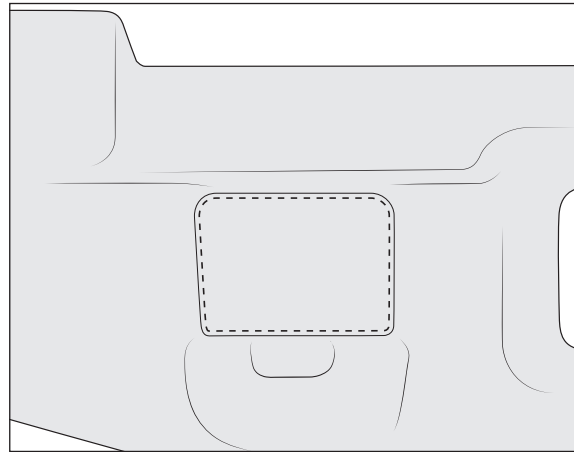

Figure 38
- B. On the inside of the corner tank, cut out the panels shown (fig. 38).